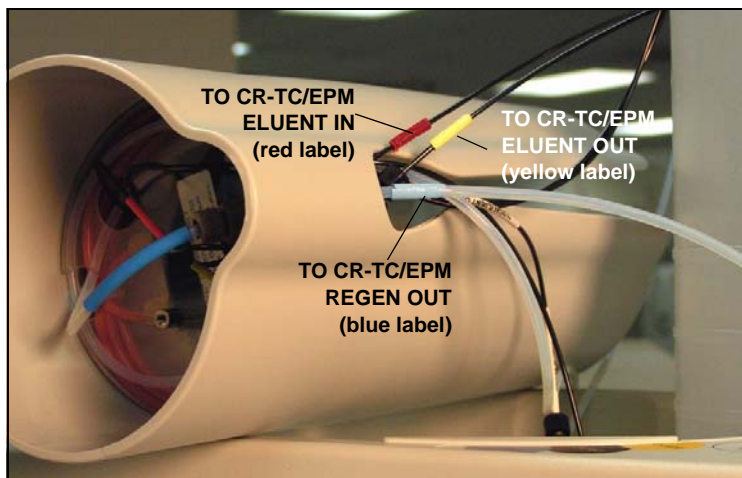

Figure 53. TO CR-TC/EPM Lines Outside of Holder
4. Thread the three extended lines (red, yellow, and blue labels) through the opening on the side of the holder (see Figure 53).